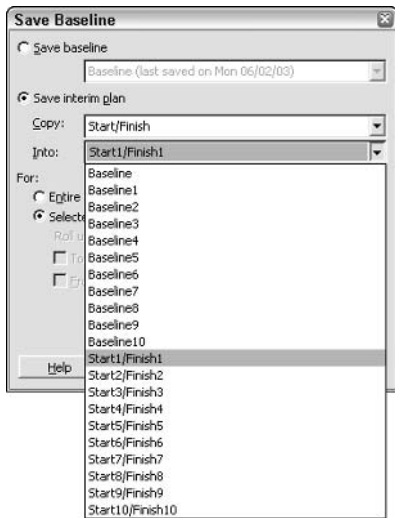

Figure 11-6: The choices in the Copy and Into lists enable you to save several sets of start and finish dates in interim plans.
4. Click the arrow to the right of the Copy field to display the drop-down list. Figure 11-6 shows that I've opened the Into list, which contains the same choices that you'll find in the Copy list.